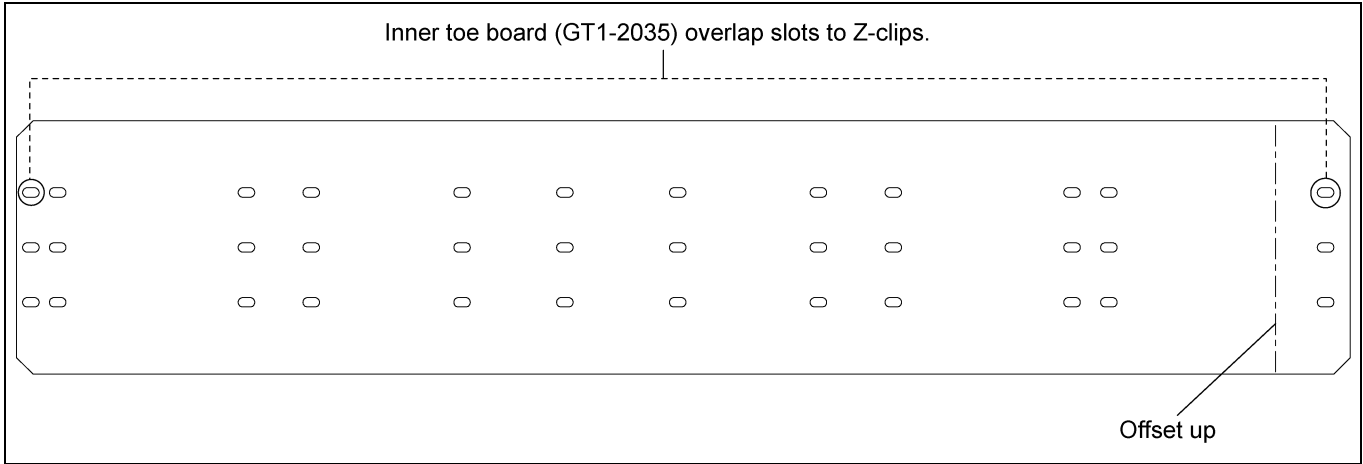

Figure 6L 12' Inner Toe Board (GT1-2035)
3. Inner toe board is arranged with overlap slots on each side. Install 12' offset and roof hatch inner toe boards (GT1-2035) to corresponding slots as shown in Figure 6L.